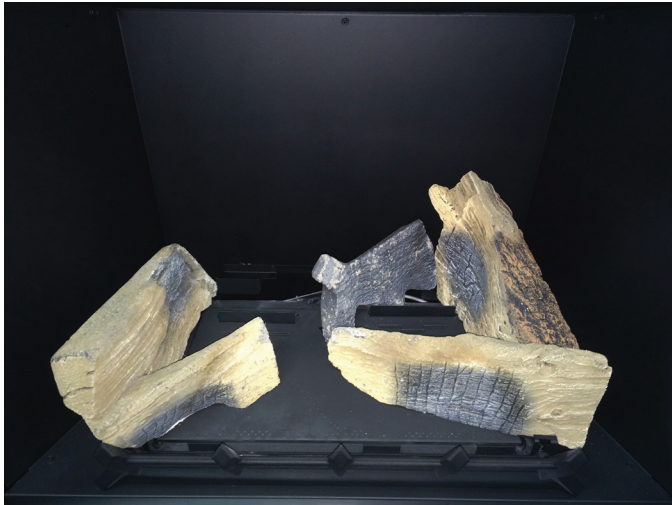

Figure 29.
- Place the left middle log #5 with the C channel locking the front and middle log in place. Figure 29